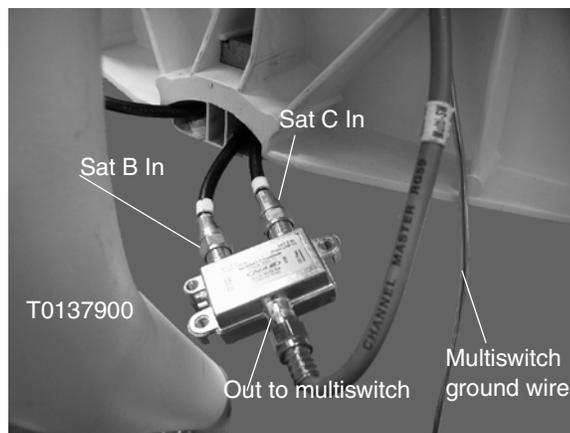

Figure 15: Combiner connections
2. Use a 7/16-inch wrench to connect the cable to the “Sat C In” combiner port. See Figure 15.
3. If the satellite at 99° provides DIRECWAY, connect one cable from the remaining LNB on the rail to the combiner “Sat B In” port. See Figure 15.
4. Connect a cable to the combiner “Out to Multiswitch” port. See Figure 15. This cable must be long enough to reach the multiswitch “Sat B In 18v” port.